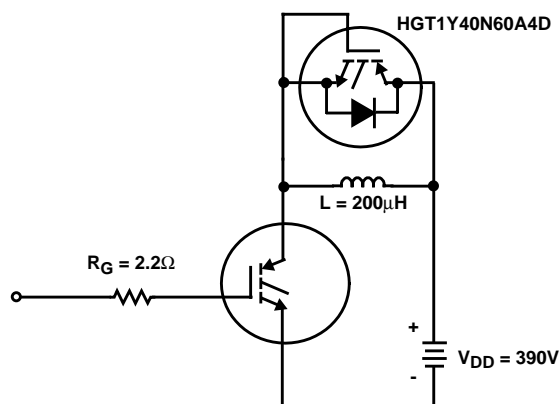

FIGURE 20. INDUCTIVE SWITCHING TEST CIRCUIT
| Current Turn-On Delay Time              | $t_{d(ON)I}$  | IGBT and Diode at $T_J = 25^\circ\text{C}$$I_{CE} = 40\text{A}$$V_{CE} = 0.65 BV_{CES}$$V_{GE} = 15\text{V}$$R_G = 2.2\Omega$$L = 200\mu\text{H}$Test Circuit (Figure 20) | -                         | 25  | -         | ns            |               |
| Current Turn-On Delay Time          | $t_{d(ON)I}$    | IGBT and Diode at $T_J = 125^\circ\text{C}$$I_{CE} = 40\text{A}$$V_{CE} = 0.65\text{BV}_{CES}$$V_{GE} = 15\text{V}$$R_G = 2.2\Omega$$L = 200\mu\text{H}$Test Circuit (Figure 20) | -   | 27   | -    | ns                 |
- Values for two Turn-On loss conditions are shown for the convenience of the circuit designer.  $E_{ON1}$  is the turn-on loss of the IGBT only.  $E_{ON2}$  is the turn-on loss when a typical diode is used in the test circuit and the diode is at the same  $T_J$  as the IGBT. The diode type is specified in Figure 20.